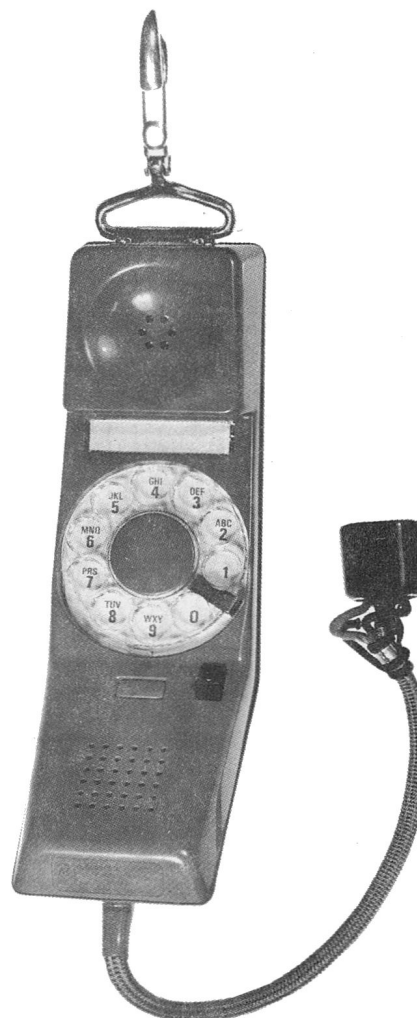

Fig. 2 — QSE4B2 Handset
2.03 The QSE4A2 and QSE4B2 Handsets are the same as the QSE4A1 and QSE4B1 types respectively, except that they use a cord equipped with an NE-346A plug. This plug-ended cord provides an arrangement whereby a basic coded handset can be adapted, by means of plug-in cords, to all Central Office tests requiring the use of a handset (Fig. 2).